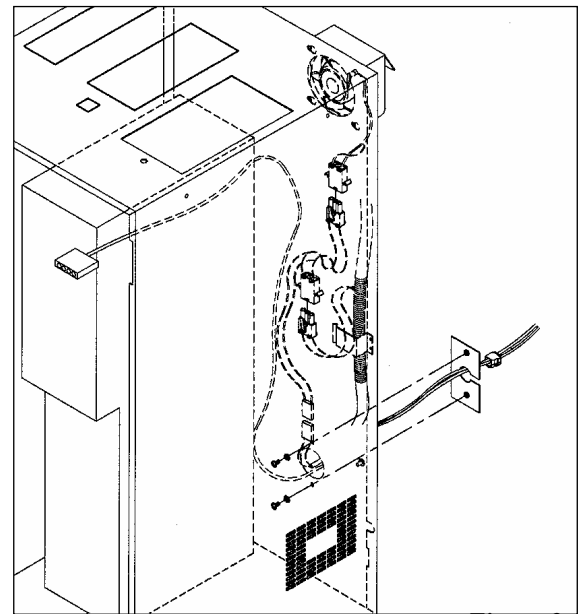

Figure 3
- b) Secure the mounting plate using the two screws provided. The plate goes on the outside rear panel of the machine, and the screws are passed from the inside (figure 3).